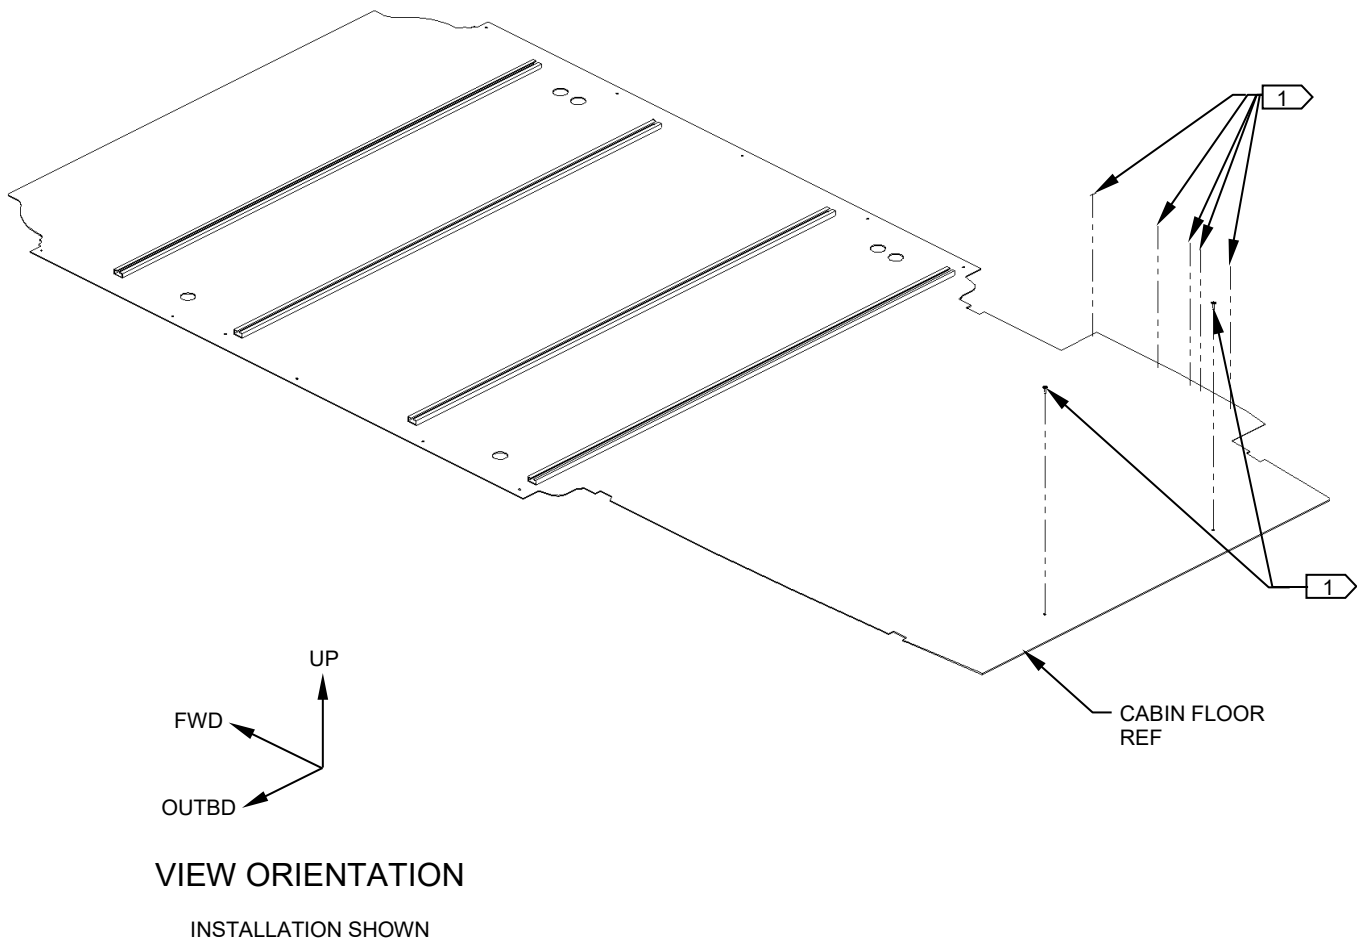

Figure 9
2. Remove and retain the two most OUTBD fasteners common to the access panels near the AFT end of the cargo area. Remove and retain fasteners along cargo door sill. Reference Figure 9.
6. Install the provided fasteners (Item 10) as shown. Reference Figures 9 & 12